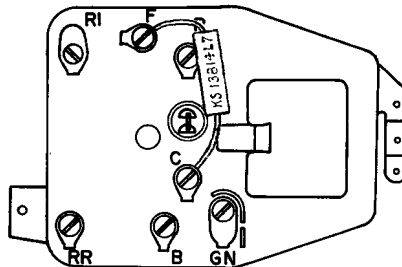

FIGURE 14. 701 Telephone Set, KS-13814, List 7
- 7.05 The KS-13814, List 7 *capacitor* is installed in the 701 type telephone sets as shown in Figure 14. It is connected between the F and C terminals of the 495 network. Cover the exposed portions of the capacitor leads with tubular insulation.